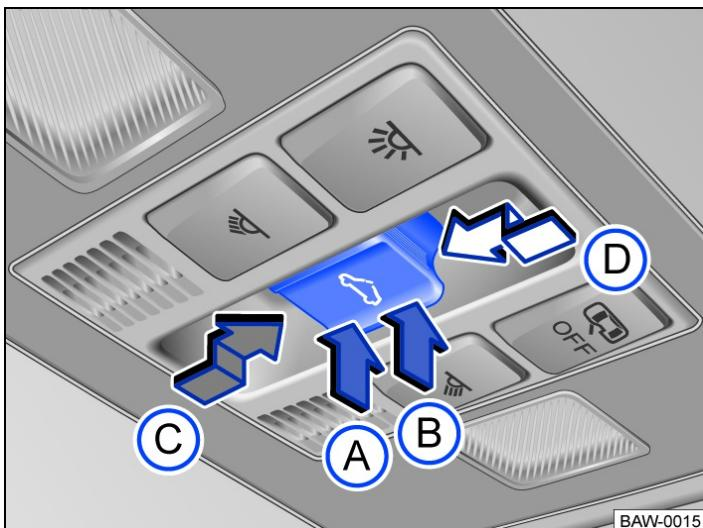

Fig. 1 In the roof: button for the glass roof.
- *Tilting the glass roof:* push the button → Fig. 1 to the first position. One-touch function: push button to the second position.